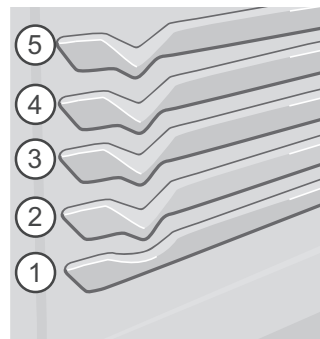

Figure 22: Rack positions
- For best results when baking cakes using two oven racks, place racks in positions 2 and 4 (See Figure 22).